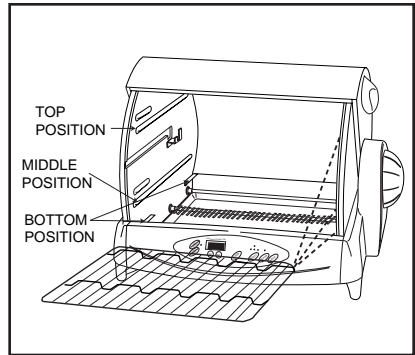

Figure 10
2. The Wire Rack can be used in the **top middle, or bottom** positions. See Figure 10.